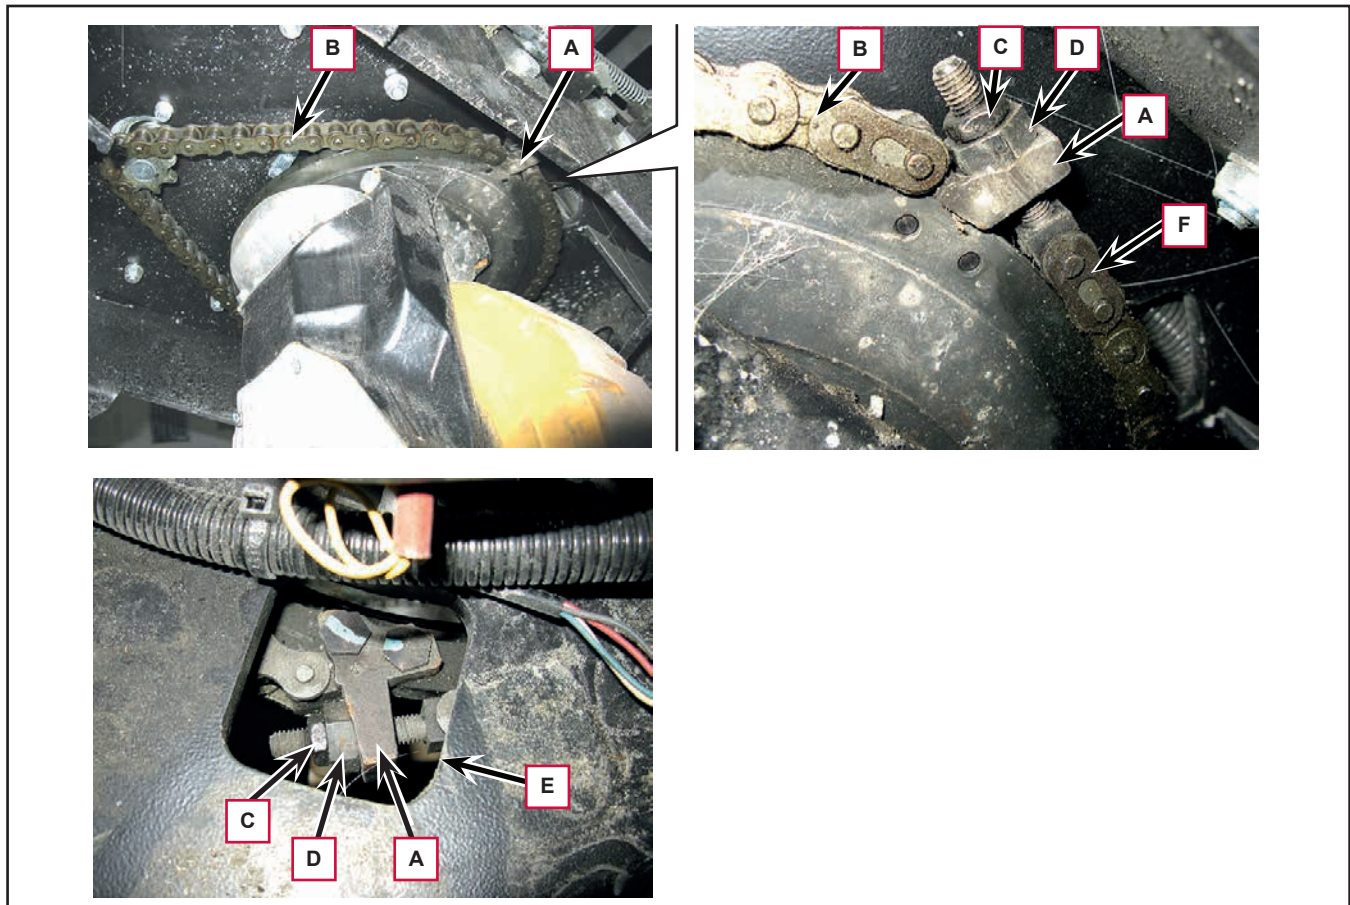

Figure 3
3. Steer the front wheel until the linkage (A, Figure 3) of the steering chain (B) becomes visible.
4. Loosen the locknut (C) and the nut (D).